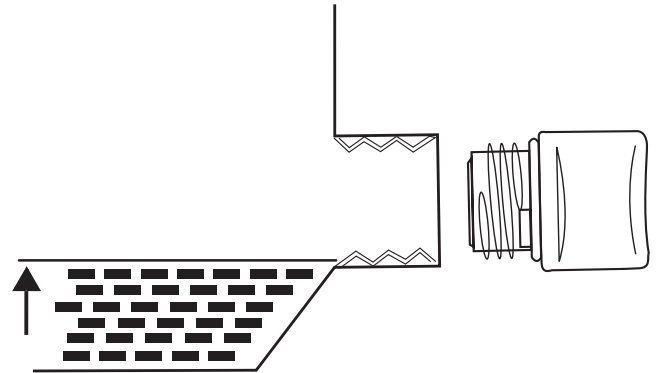

Figure 25 – Engine Oil Correct Level
- Add the 200 ml of oil to the engine. The oil should now be at the correct level (see Figure 25).